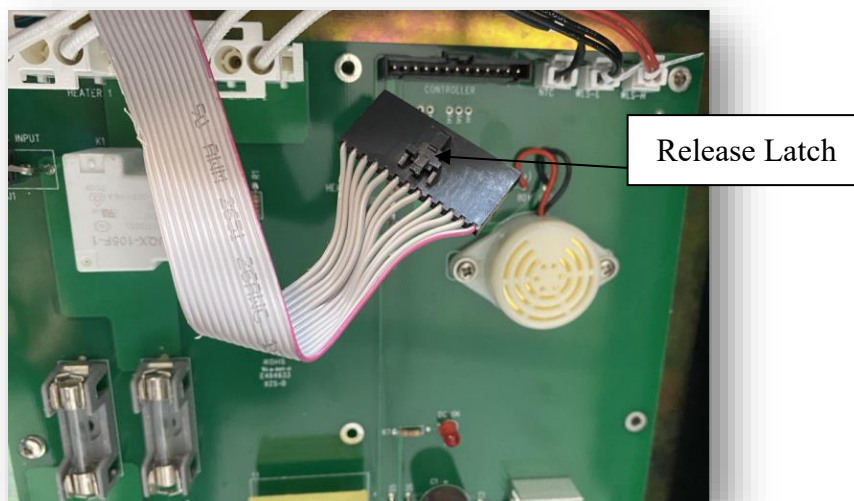

Figure 44 – Re-seat J6 Ribbon Connector
- ii. If the “DC OK” LED is lit, and the Control Panel display has no power or is giving an ES error, power off the SCA and reseat connector J6 (See Figure 44). The latch must be released to remove the connector by pressing a thumb nail on the latch lever and wiggle the connector out of the socket. Skip to the next step (Step c).